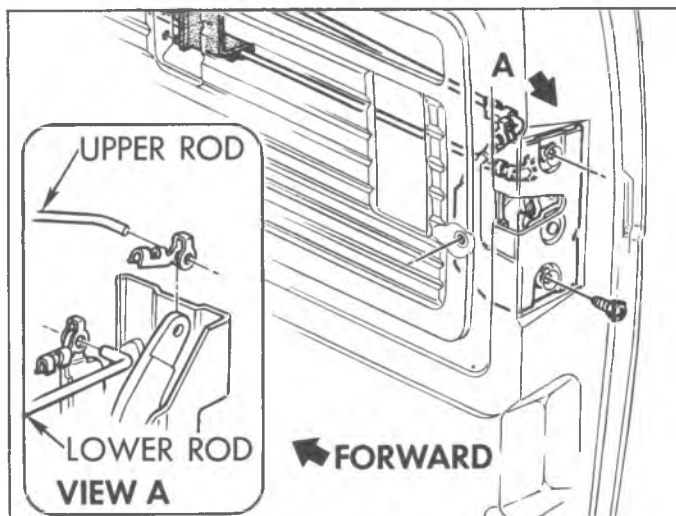

Fig. 27G—Sliding Door Rear Latch
4. Remove rear latch attaching screws. See figure 27G.